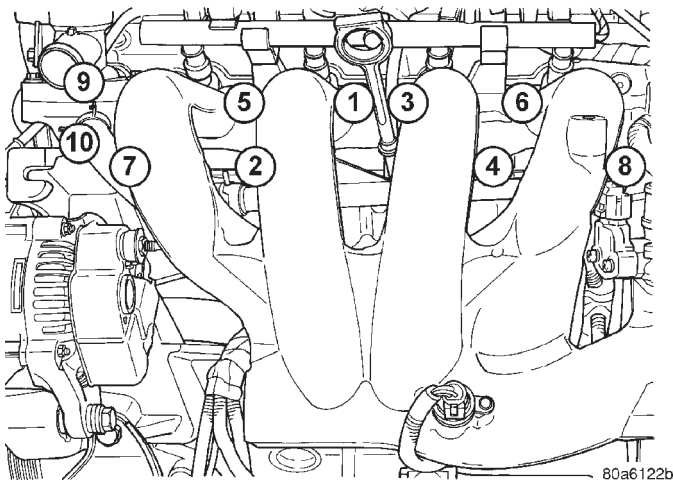

Fig. 27 Intake Manifold Tightening Sequence—2.4L Engine
(12) Remove intake manifold fasteners (Fig. 27). Remove intake manifold.
(1) Install new intake manifold and gasket. Tighten fasteners to 12 N·m (105 in. lbs.) in sequence shown in (Fig. 27).
(2) Remove covering from fuel injector holes and insure the holes are clean. Install fuel rail assembly to intake manifold. Tighten screws to 23 N·m (200 in. lbs.).
(3) Inspect quick connect fittings for damage, replace if necessary. Refer to Group 14, Fuel System for procedure. Lubricate tube with clean engine oil.